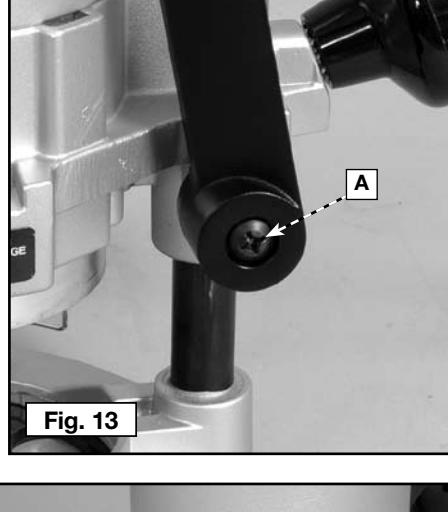

Fig. 13
1. While holding the lever in the upright position, remove the retaining screw (A) Fig. 13. Continue to hold the lever through the remaining steps.